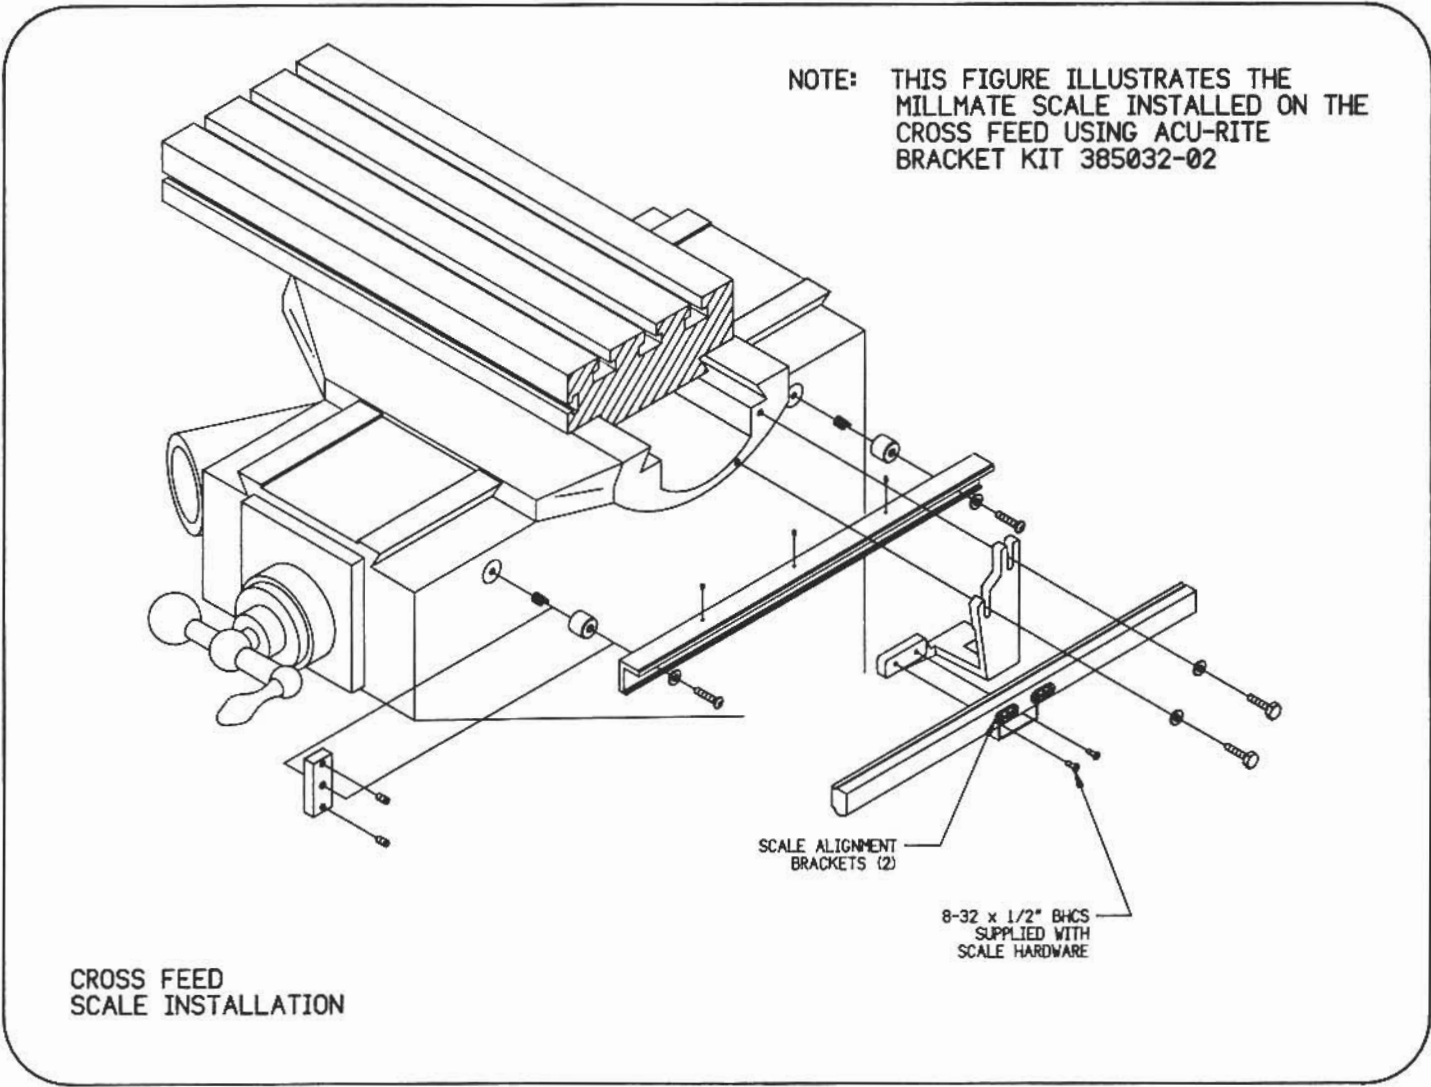

Figure 1-8. Suggested Mounting Method.
3. Refer to the mounting method provided in Figure 1-8.